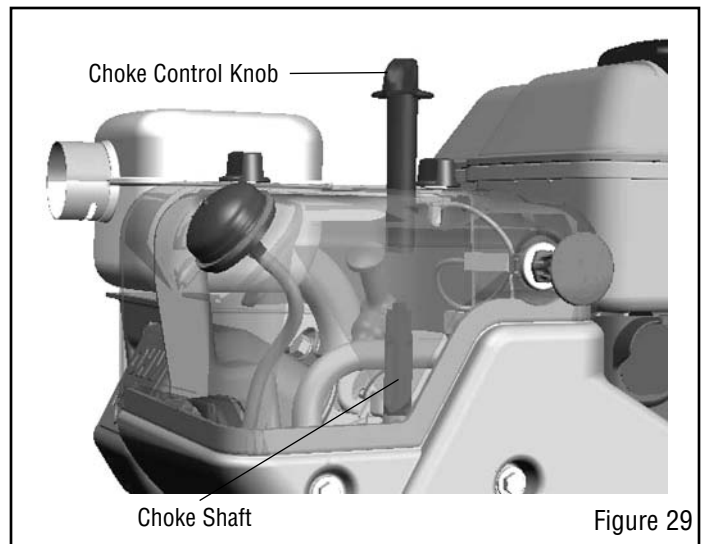
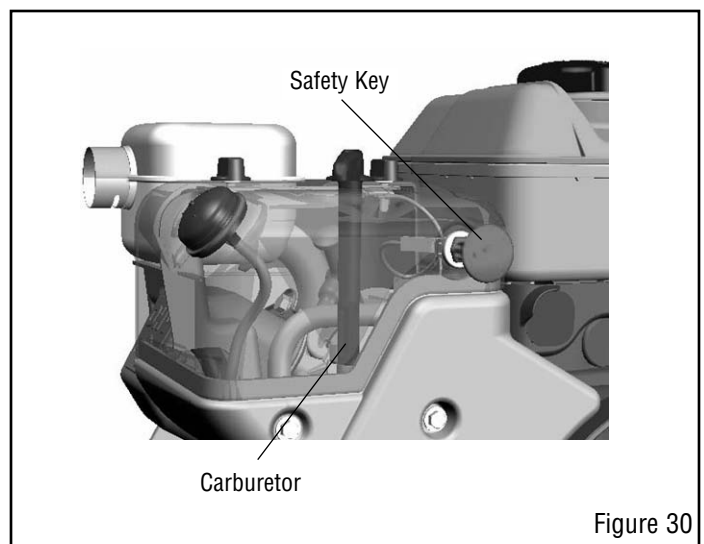

Figure 29
Figure 30
8. Connect the choke control knob with the choke shaft on the carburetor (see Figure 29 and Figure 30). Make sure the choke control knob is properly installed. If the choke control knob is not installed correctly, the choke will not operate.